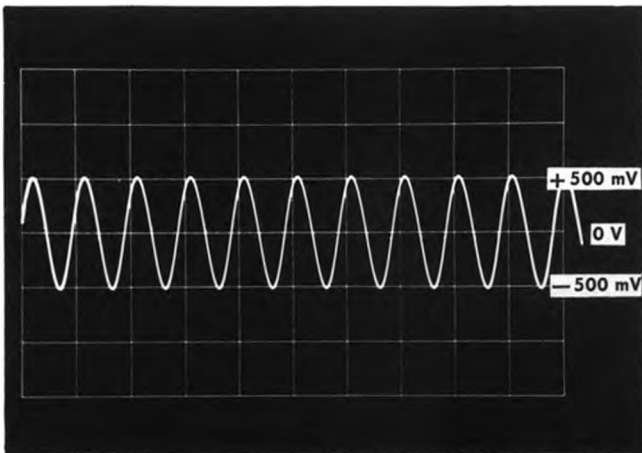

Fig. 6-20. Dynamic range of P6042, test oscilloscope set to 0.5 V/div.
f. Check for an undistorted dynamic range of at least + and -1 cm (\geq + and -500 mV at probe amplifier output). See Fig. 6-20.